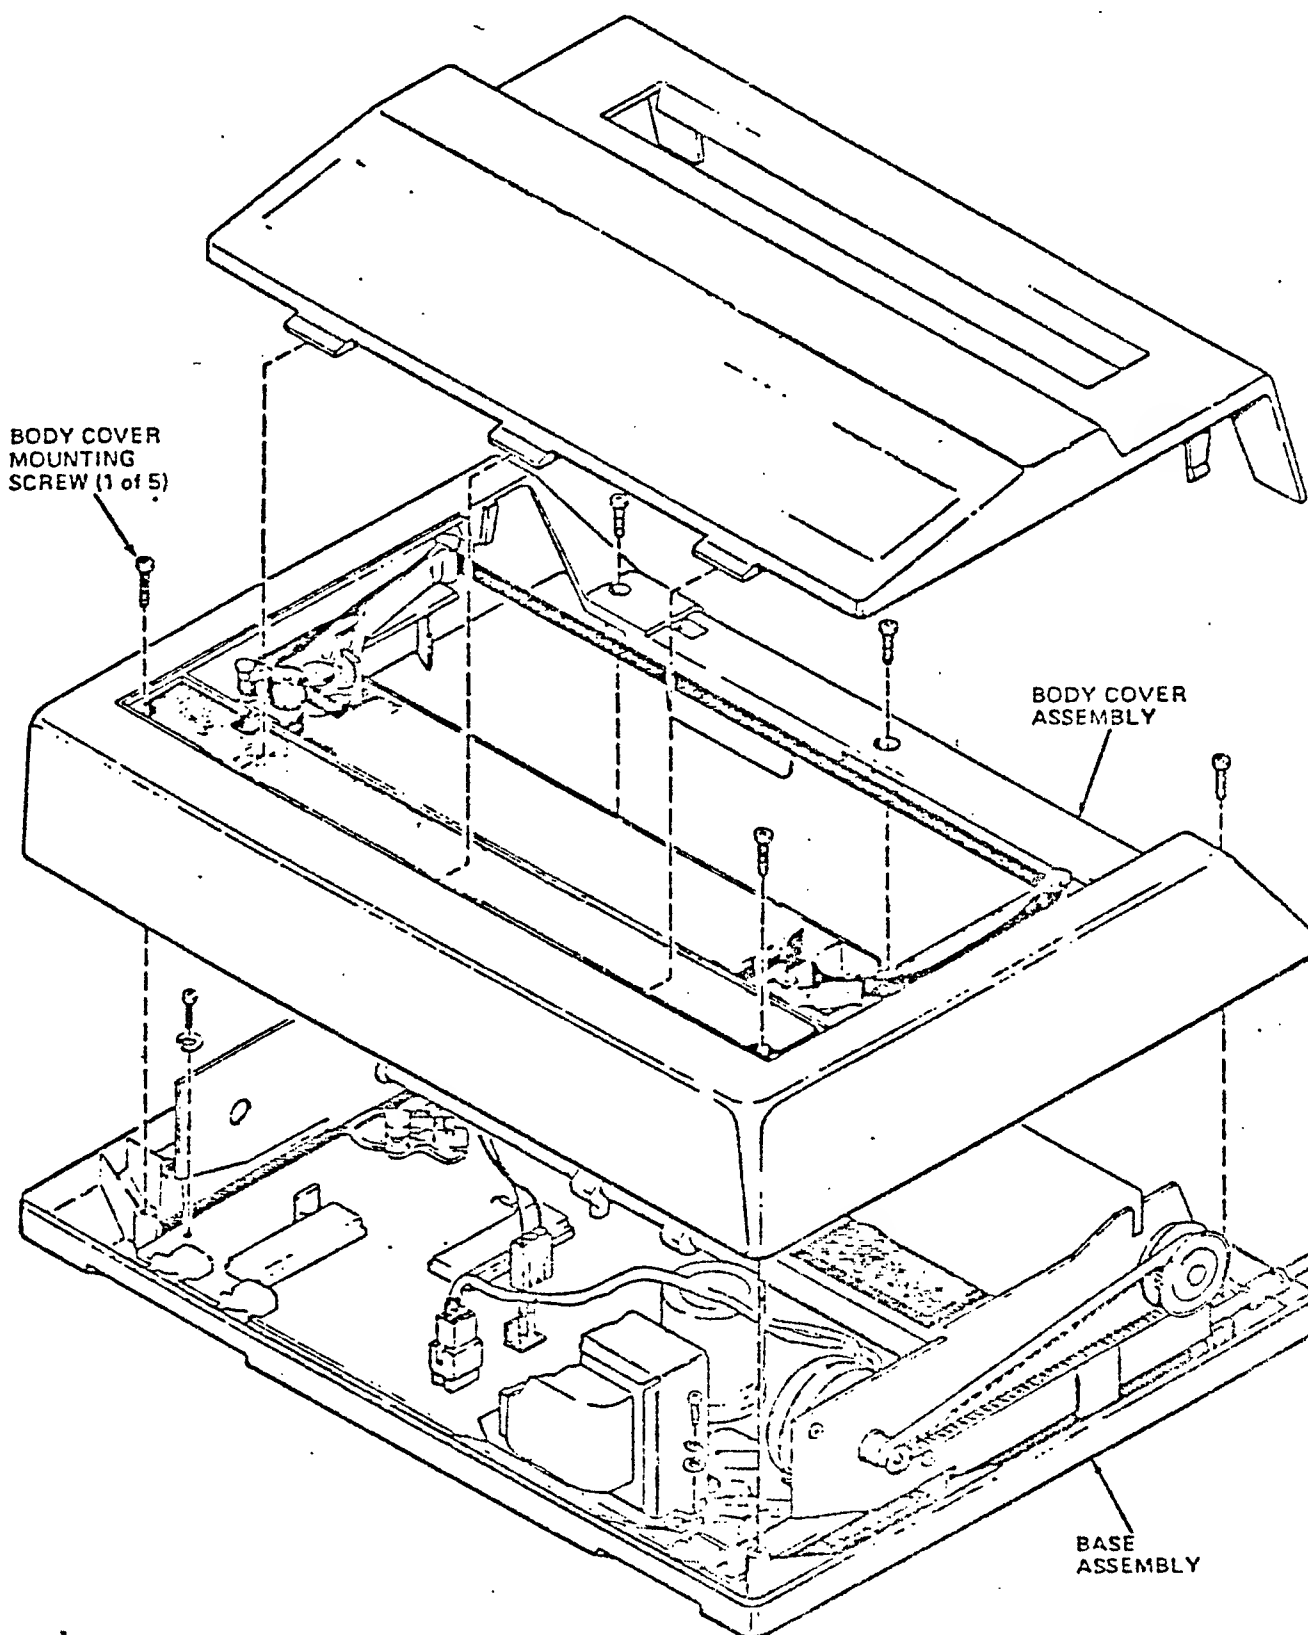

Figure 5-6. BODY COVER ASSEMBLY REPLACEMENT
5.7 BODY COVER ASSEMBLY (Reference Figure 5-6).